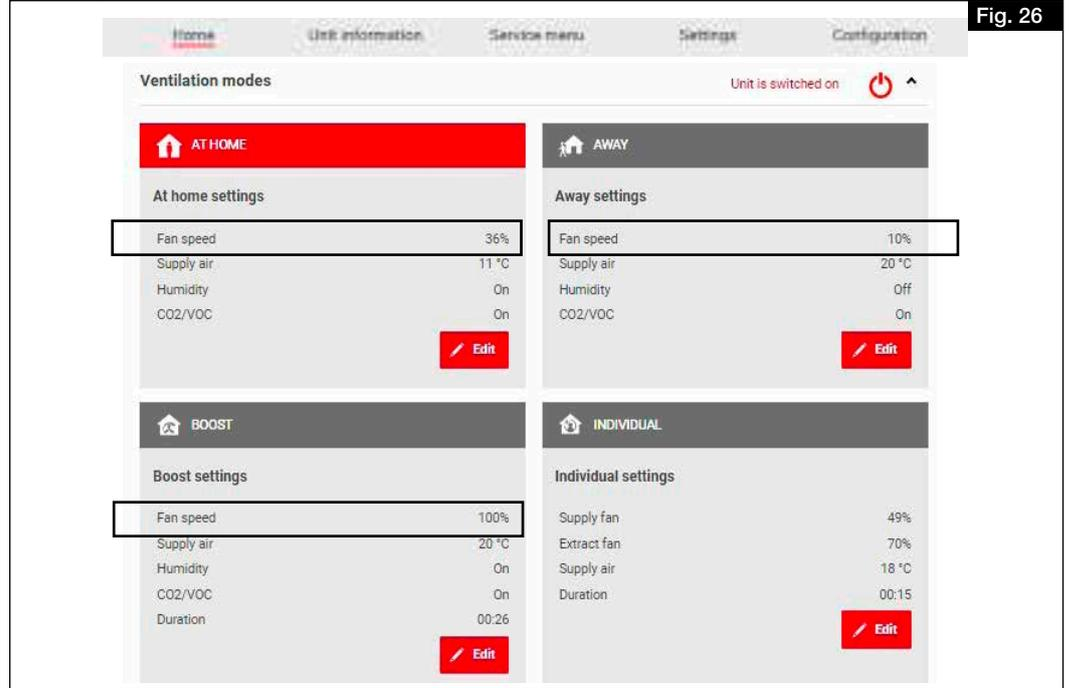
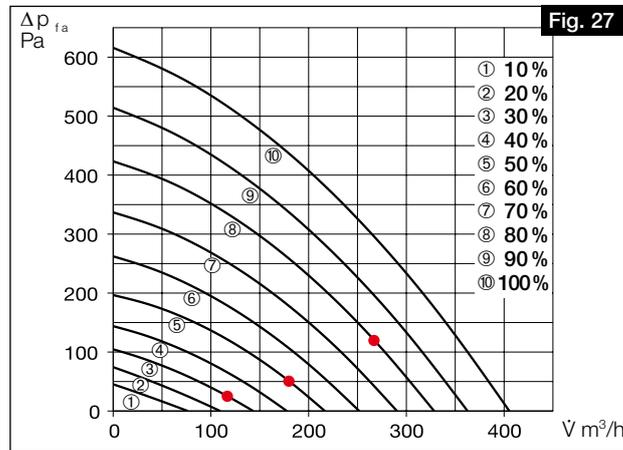

Fig. 26
Fig. 27
- ① Ensure approx. 20 cm straight settling section up to the measuring connectors!
2. Set the following values in the respective ventilation profile: **Away from home:** 30 % / **At home:** 50 % / **Intensive ventilation:** 80 % (cf. Fig. 26) via the easyControls 3.0 software or the KWL-BE Touch control element for the fan powers.
- ① **The adjustment is presented as an example using the example of the KWL 360 W unit. All measurements and**
4. Enter the determined differential pressures from the supply and intake air measurement in the unit characteristic curve for supply air (see Fig. 23 and Fig. 24) according to the fan outputs saved in the ventilation profile (cf. Fig. 26 and Fig. 27).
5. Enter the determined differential pressures from the extract and exhaust air measurement in the unit characteristic curve for extract air (see Fig. 23 and Fig. 24) according to the fan powers saved in the ventilation profile (cf. Fig. 26 and Fig. 27).
Switch units on/off in the Homepage menu (see Fig. 26).